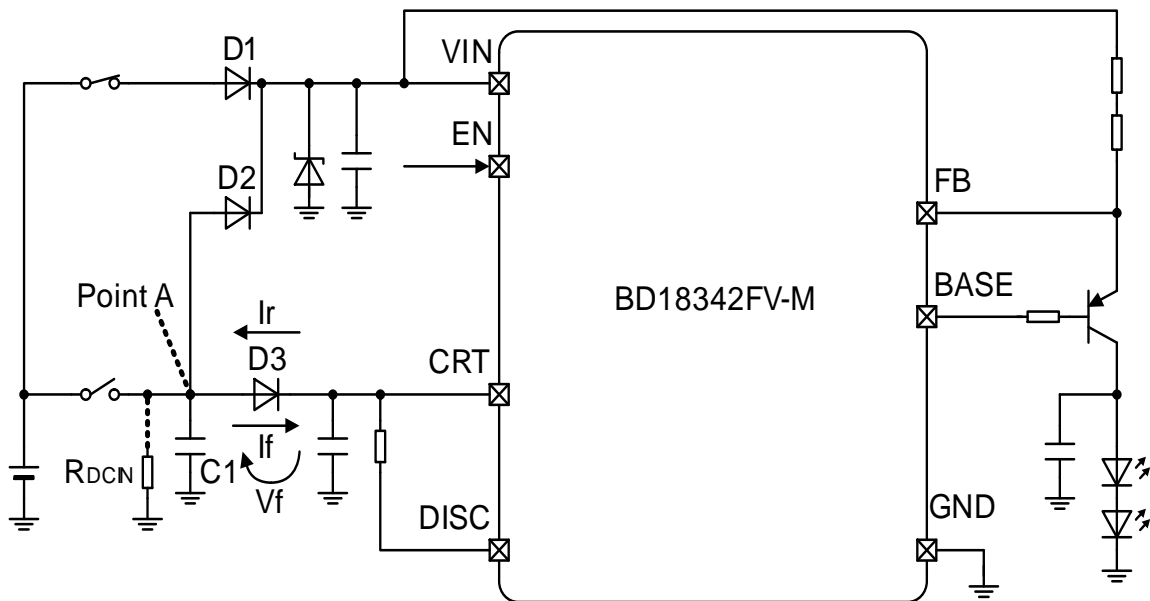

Figure 15. How Reverse Protection Diode Affects the CRT Pin Ramp Up/Down Time
- ① During the PWM dimming operation mode, Point A on Figure 15 is Hi-Z.
- ② Reverse current I_r of D2 and D3 goes to Point A.